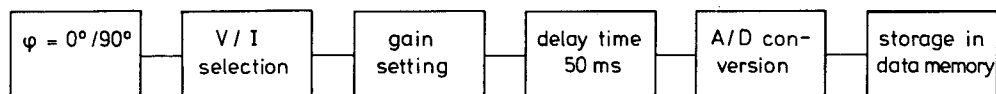

Fig. 1 One single measurement
2.2. MEASURING PRINCIPLE, Figs. 1, 2, 3